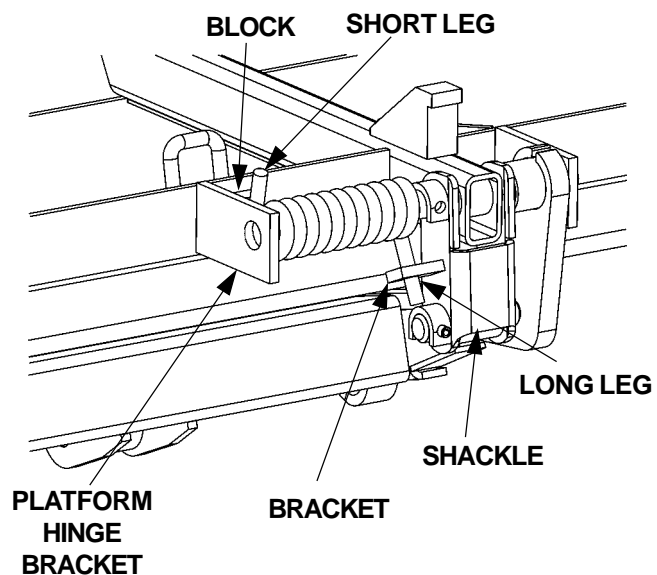

FIG. 11
4. Install the Torsion Spring as shown in (**FIG. 11**). Make sure the long leg of the spring is inserted in the bracket located on the Shackle. Make sure the short end of the spring is visible and resting against the block on the Platform Hinge Bracket (**FIG. 11**).